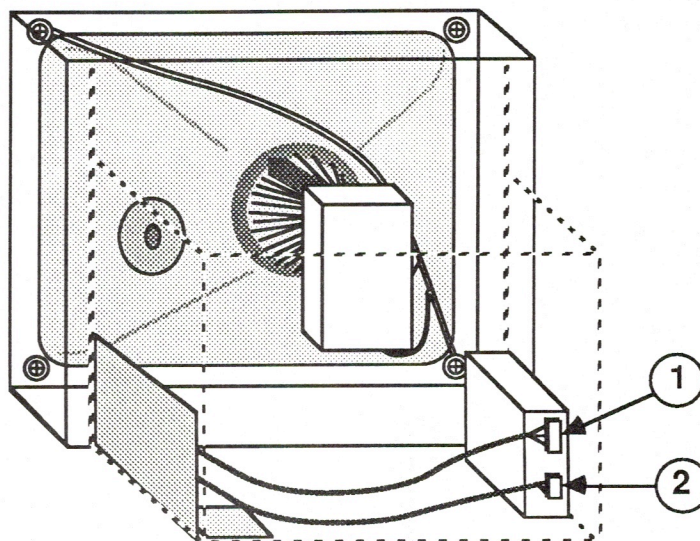

FIGURE 6
4. Unplug the six-pin connector from the top rear of the power supply (Figure 6, #1) and the three-pin connector below the six-pin connector (Figure 6, #2).
1. Set the power supply inside the chassis, but don't yet insert the tabs. Reconnect the six-pin connector from the logic board (Figure 6, #1) and the three-pin connector from the power switch (Figure 6, #2) to their connectors on the rear of the power supply.